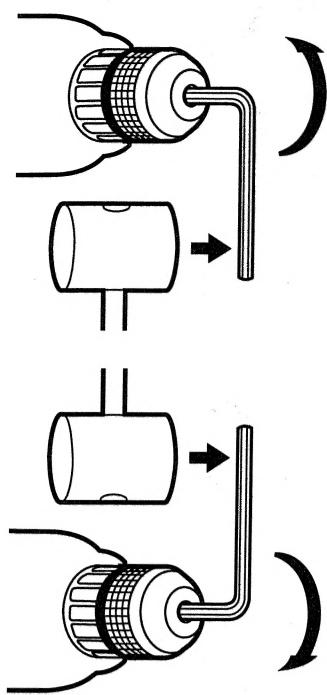

Figure 4 Figure 5
3. Using a wooden mallet or similar object, strike the longer end in the clockwise direction, as shown in Figure 4. This will loosen the screw inside the chuck.
4. Strike the longer end in the clockwise direction with a wooden mallet, as shown in Figure 4. Insert and tighten the screw by turning in a counter-clockwise direction.